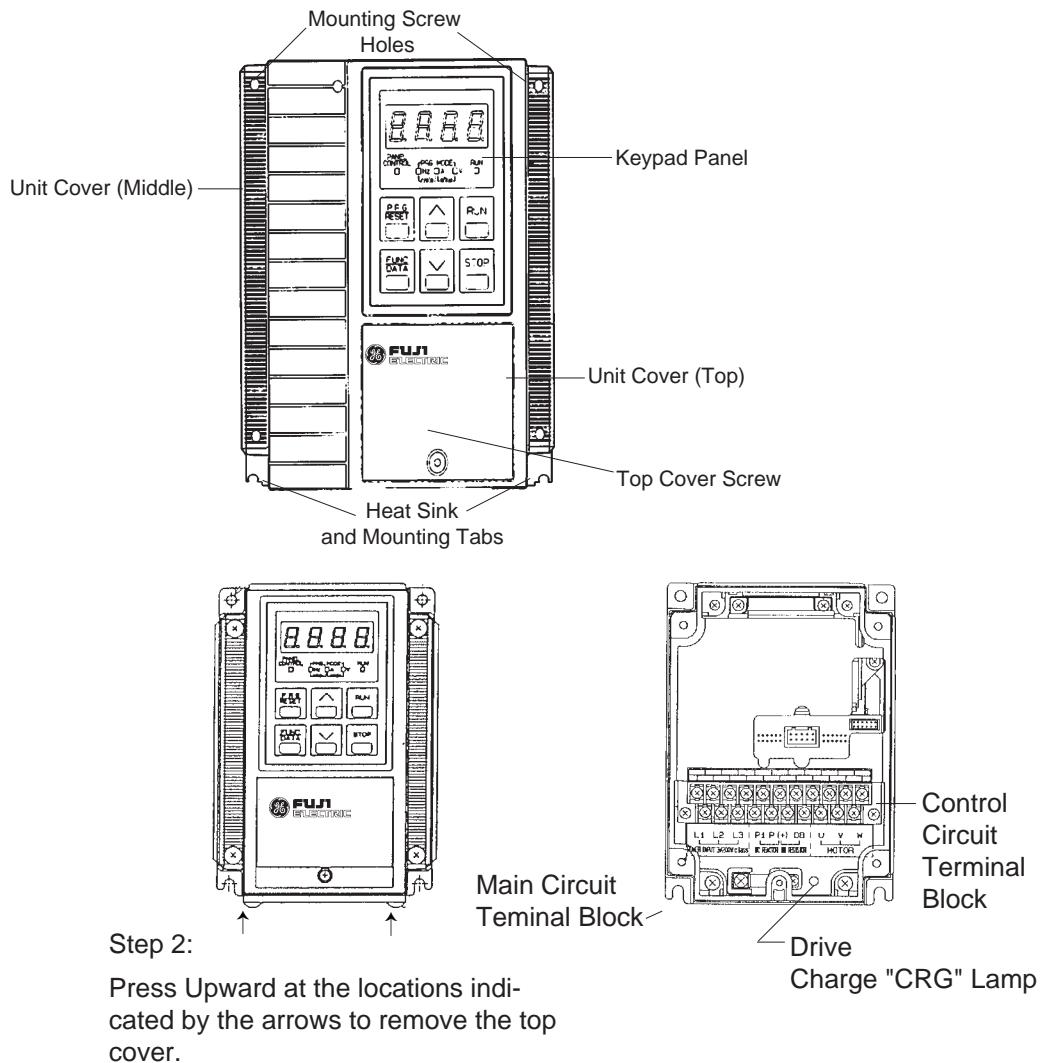

Figure 4-1. REMOVING THE TOP COVER
To access Main and Control Circuit Terminals remove the top cover as follows (see Figure 4-1):
2. Press upward on the bottom of the top cover (see arrows Figure 4-1 step 2) and lift off.
3. See Figure 4-1 for the location of the Main Circuit Terminal Block and the Control Circuit Terminal Block.